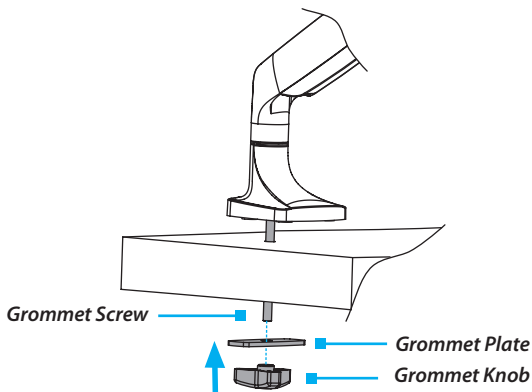

Figure 10
7. On the underside of the mounting surface, thread the **Grommet Plate** (6) through the **Grommet Screw** so that the **Grommet Plate** is flush against the mounting surface.
8. Screw the **Grommet Knob** (4) onto the **Grommet Screw** and turn the **Grommet Knob** clockwise to tighten it flush against the **Grommet Plate**. (Figure 10)